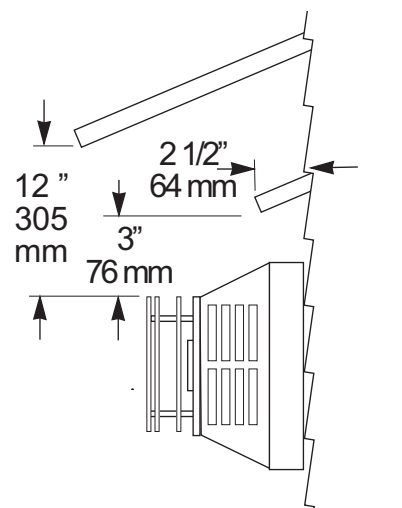

Figure 19. Termination Clearance to overhangs.
- The horizontal termination cap must maintain a 3" clearance to any overhead combustible projections 2 1/2" or less. It must also maintain 12" clearance from projections exceeding 2 1/2". See fig. 19.